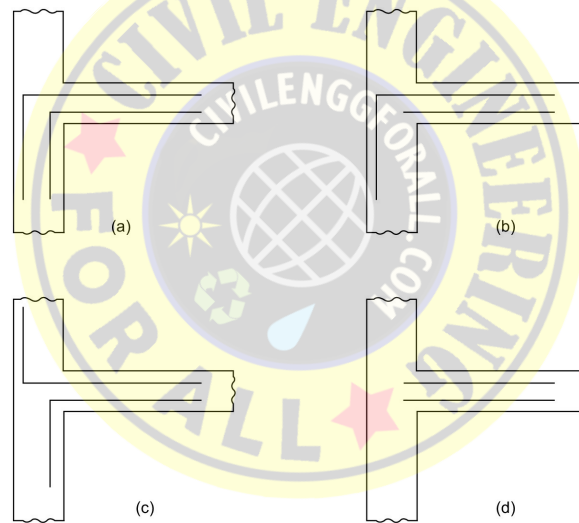

Fig. Q. 60
60. Figure Q. 60 shown below shows four methods of end reinforcements in a continuous beam in its end span. Which one is correct?